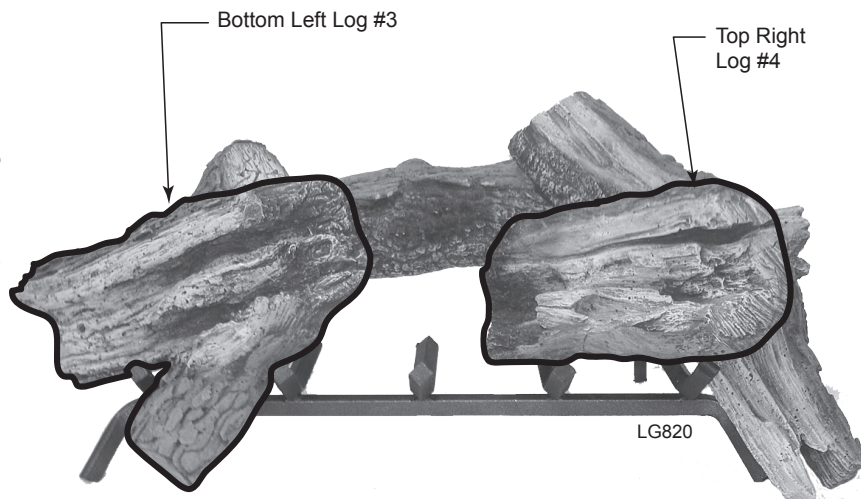

Figure 51 -
3. Place Top Right Log #4 on Bottom Right Log #2 resting on grate. *Figure 51*
4. Place Bottom Left Log #3 on grate. The "V" of the log should straddle the end grate bar. *Figure 51*